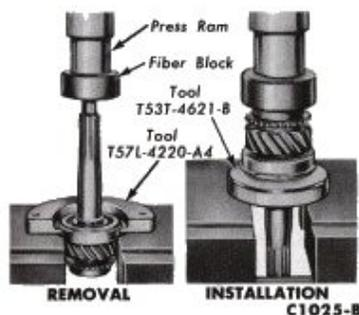

FIG. 22—Input Shaft Bearing Replacement
outer snap ring that was removed previously, then, press the bearing off the shaft as shown in Fig. 22, using the tool indicated. To disassemble the input shaft on a Comet transmission, remove the bearing retainer snap ring, and spacer washer. Insert the lip of the tool in the bearing snap ring groove and press the shaft out of the bearing.
2. Assemble the input shaft bearing on the input shaft as shown in Fig. 22. Retain the bearing on the shaft with a spacer and snap ring.